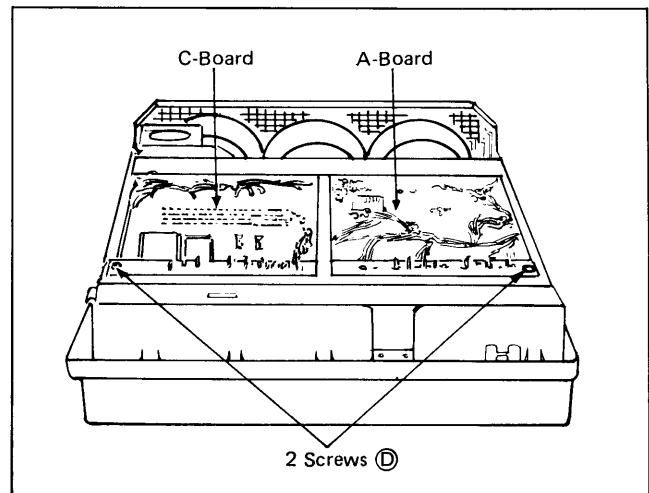

Fig. 5
- Loosen 2 screws (D) counterclockwise by 90° as shown in Fig. 5.